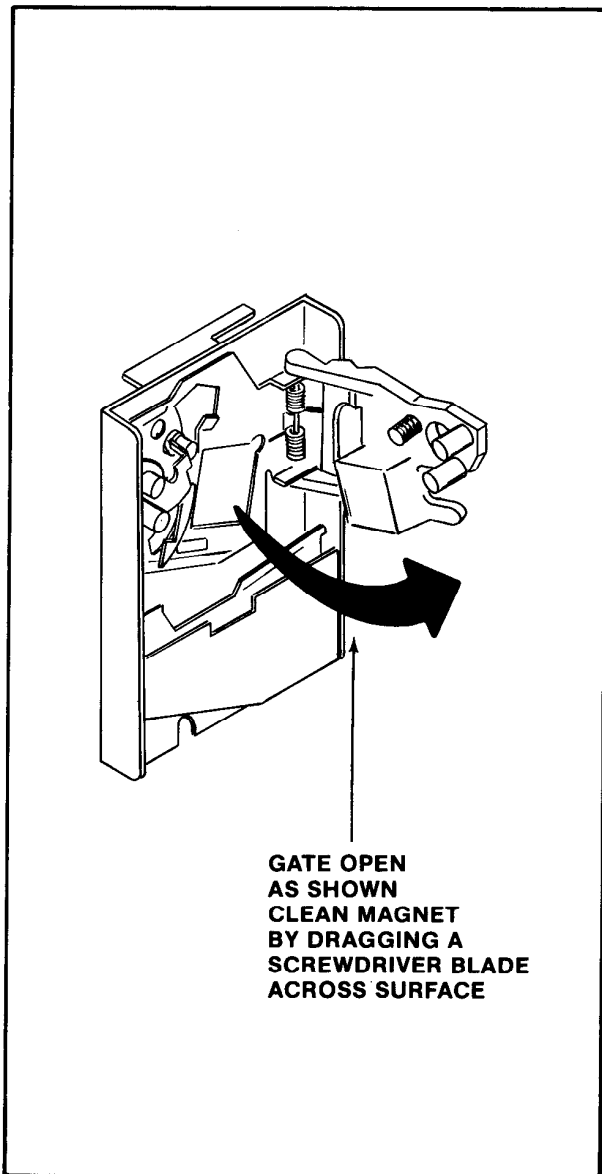

Figure 10. Opening the metal coin acceptor
4. Clean the magnet of all foreign particles: See Figure 10.